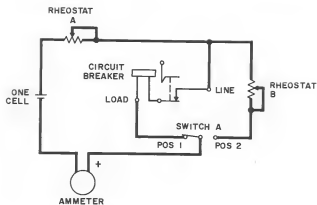

Fig. 21—Checking Circuit—DC Breakers—KS-5648
(c) **KS-5926:** To check a KS-5926 circuit breaker, proceed in accordance with Methods 1 and 3. Refer to Fig. 21, 25, 31, and 34. Check each pole separately as shown by options 1, 2, and 3.
- (f) **KS-15739:** To check a KS-15739 circuit breaker, proceed in accordance with Methods 1 and 2 as applicable. In following Method 2, adjust the current to 200 percent instead of 125 percent of the breaker rating. Refer to Fig. 21, 22, and 23. Check each pole separately as shown by options 1 and 2.
- (y) **KS-21597:** To check a KS-21597 circuit breaker, proceed in accordance with Method 2 except adjust current to 125 percent of the breaker rating instead of 120 percent. Refer to Fig. 21. Check each pole separately as shown by options 1 and 2.